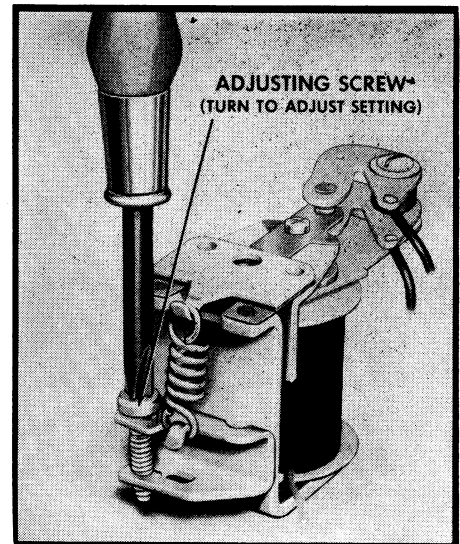

Fig. 48 Adjusting voltage regulator setting (lower contacts)
5. Cycle the generator by turning the variable resistance to the "open" position momentarily, then slowly cut out all resistance. Regulator should be operating on the lower contacts on the voltage given in the *Specifications* chart (in truck chapters). The setting may be adjusted in the conventional manner by turning the screw to adjust spring tension, Fig. 48.